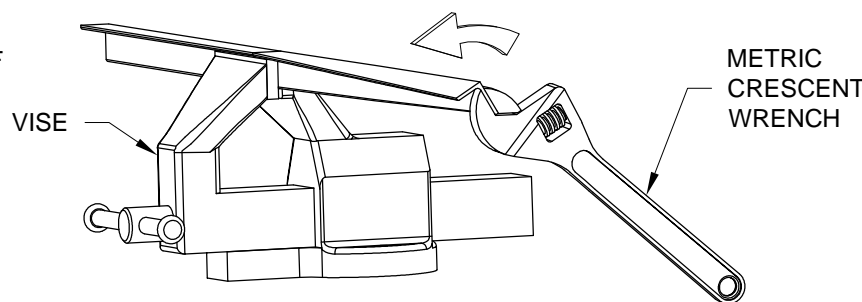

FIGURE 3: LONGERON TWISTING
Step 3: Open the angle of the longeron as shown in Figure 4 from the start of the longeron to the end of twist & open line as shown in Figure 1. Clamp the longeron in a padded vise at the end of twist & open line as shown in Figure 1. Use a crescent wrench as shown in Figure 3 to twist the longeron inboard as shown and per the dimensions in Figure 1. When finished the top faces of the longeron both fore and aft of the end of twist & open should lay flat against a table. See Figure 6.